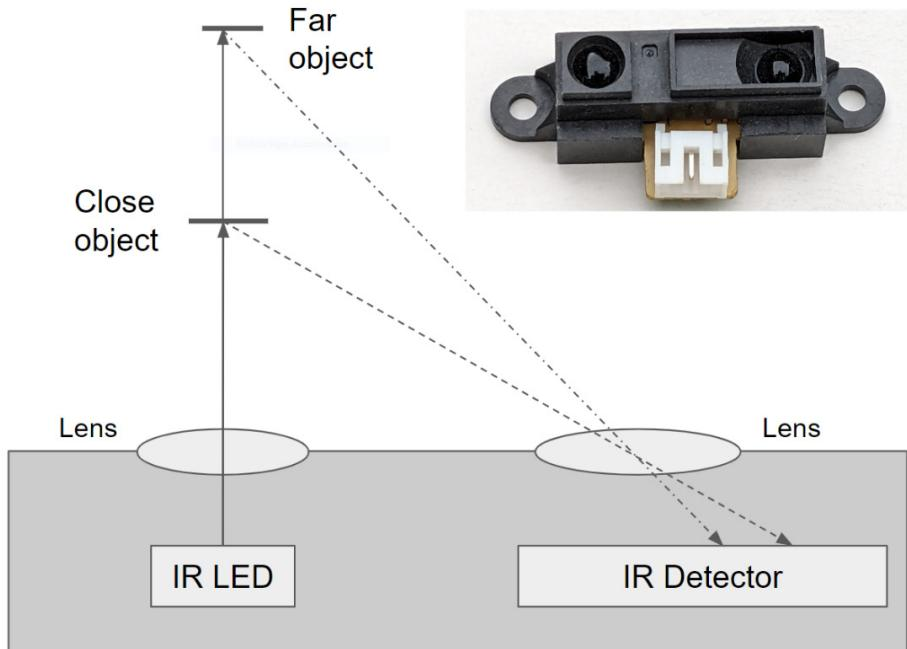

Figure 2.1 – The principle of operation of infrared distance sensors
- **Infrared distance sensors:** These sensors emit a focused beam of invisible light with an infrared LED. They determine the distance to an object by analyzing the direction of the reflection with an infrared detector (see *Figure 2.1*). The emitter and the detector are usually housed in the same enclosure. These sensors are cheap and fairly precise at small distances, with a narrow field of view. However, they tend to be highly nonlinear and require a little bit of extra code to linearize their output signal.